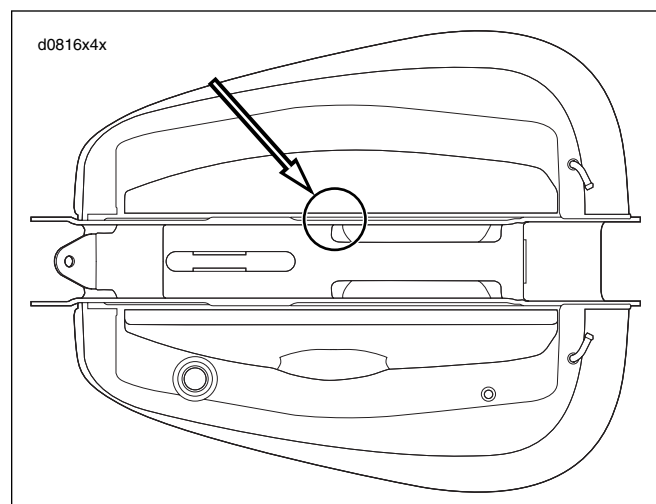

Figure 3. Fuel Tank Inspection Area
1. See Figure 3. Determine extent of wear on fuel tank: